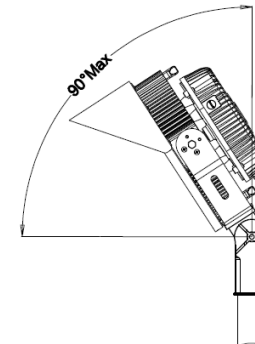

FIG. 3
- 3) Make any angle adjustment as necessary [Fig.3].